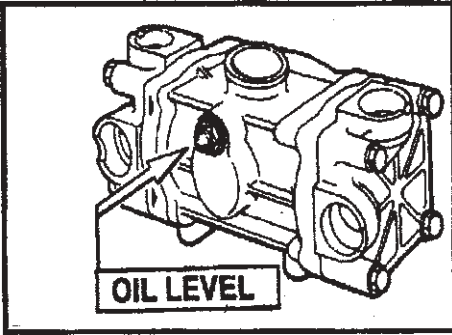

Figure 2
IMPORTANT: With the pump not operating and sitting horizontal, oil must never rise above the level shown by arrow in Figure 2. Use oil of the type indicated on the pump name plate.
4. Fill slowly with new oil until oil reaches the correct level in the sight gauge (see Figures 2 through 4 Page 3-4).